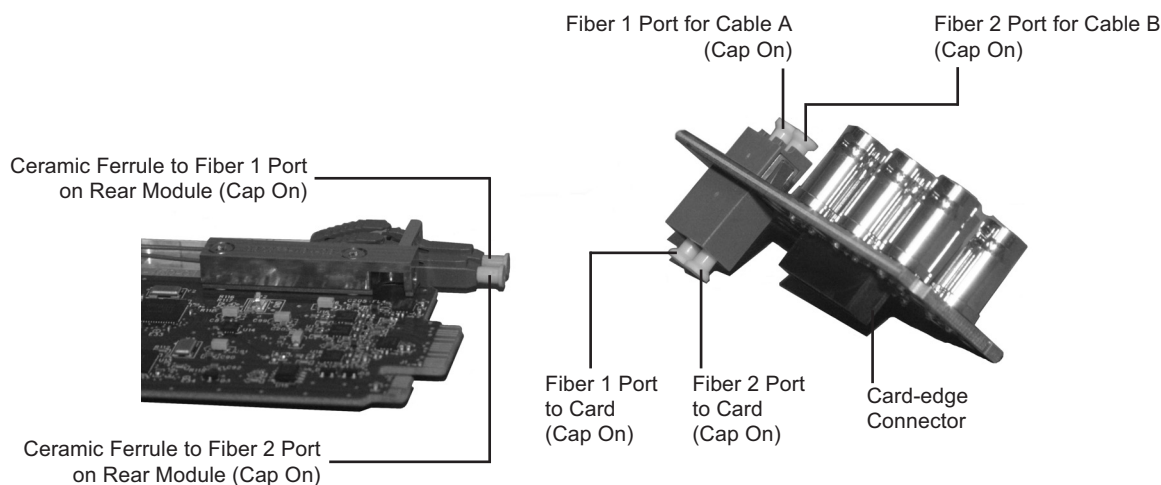
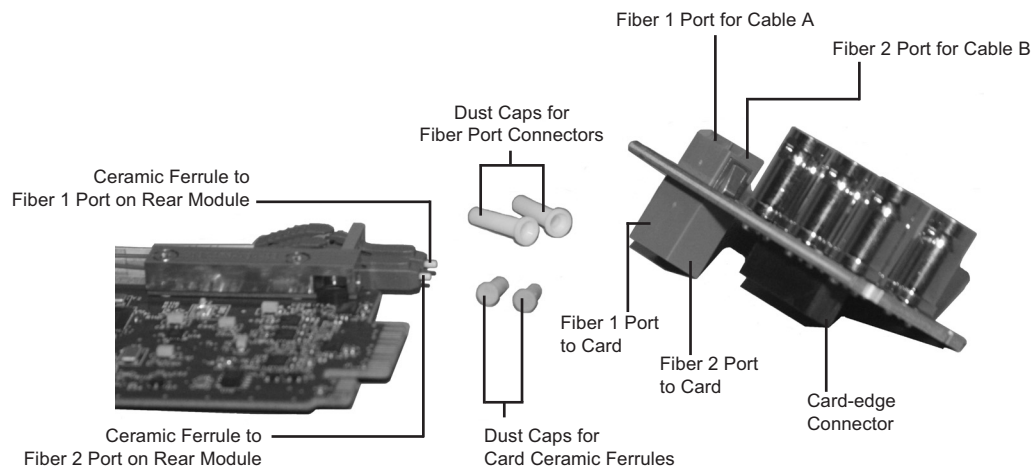

Figure 2.1 Card Connectors with Dust Caps Installed
Figure 2.2 Card Connectors with Dust Caps Removed
- Connectors must always be inserted into a device or have a dust cap on. Refer to **Figure 2.1** for dust cap locations.
3. Remove the dust caps from the Fiber ports on the rear module that face the interior of the frame. Refer to **Figure 2.1** and **Figure 2.2** for dust cap locations.
- Refer to **Figure 2.1** and **Figure 2.2** for dust cap locations.